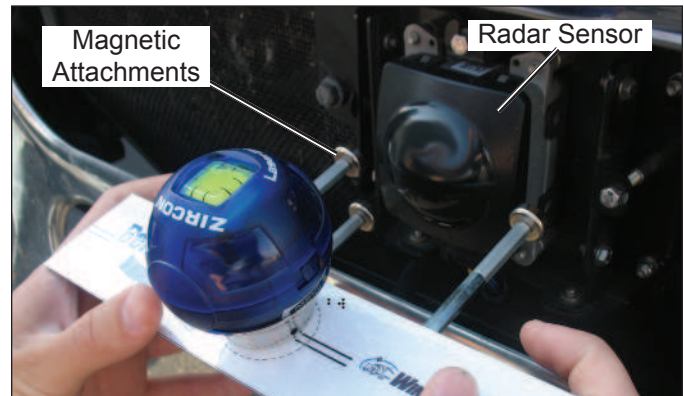

FIGURE 27 - ATTACHING THE ALIGNMENT TOOL (SHOWS TOOL K041451 OR K041227)
6.7.4. Position the alignment tool over the sensor so that it straddles the sensor. Attach the alignment tool to the bracket/sensor assembly using its magnet attachments. Use the Lateral Alignment level to make sure that the alignment tool is approximately horizontal width-wise. See Figures 27 and 28.